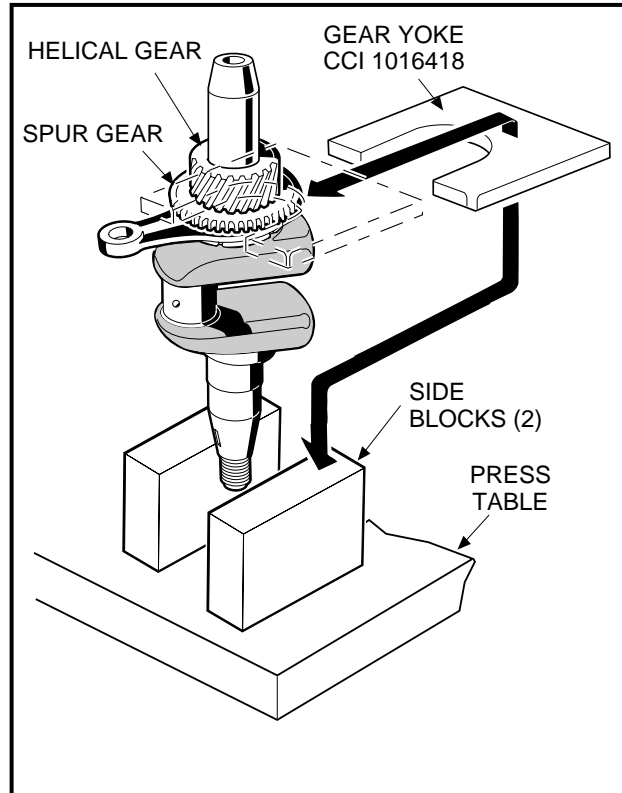

Figure 13-75 Place Assembly in Press
2. If the link rods need replacing, place the gear yoke (CCI 1016418) under the spur gear with the small end of the connecting rod located opposite the crankpin (**Figure 13-75, Page 13-36**).
3. Position the gear yoke with the side blocks positioned as close to the crankshaft as possible (**Figure 13-75, Page 13-36**).